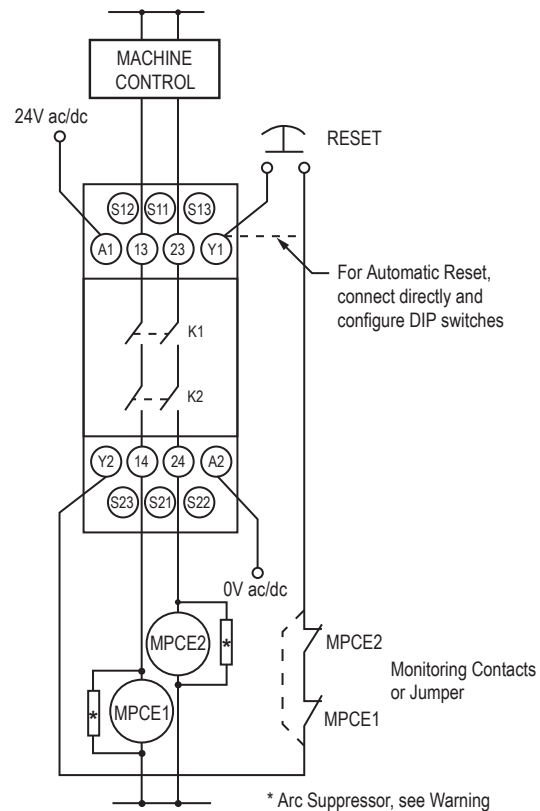

Figure 7. Wiring to the guarded machine
The reset function has two options, selected by DIP switch: Automatic reset or Monitored Manual reset. See Figure 7 on page 9 for configuration information.
The machine interface hookup diagram (Figure 7) shows a generic connection of the Module's two redundant output circuits to machine primary control elements MPCE1 and MPCE2. A machine primary control element is an electrically powered device, external to the Module, which stops the guarded machinery by immediately removing electrical power to the machine and (when necessary) by applying braking to dangerous motion. The stop is accomplished by removing power to the actuator coil of either MPCE.
To satisfy the Safety Category 4 requirements of ISO 13849 (EN 954-1), each MPCE must offer a normally closed, forced-guided monitor contact. One normally closed monitor contact from each MPCE is wired in series to the Y1-Y2 feedback/reset input (see Figure 7 on page 9). In operation, if one of the switching contacts of either MPCE fails in the shorted condition, the associated monitor contact will remain open, preventing the reset of the Module.
The reset switch must be capable of reliably switching 15 to 30V dc at 5 to 50 mA. As shown in Figure 7 on page 9, the reset switch connects between terminals Y1 and Y2 of the Module. The reset switch must be located outside of – and not accessible from – the area of dangerous motion, and it must be positioned so the switch operator can see all areas of dangerous motion during the reset procedure (see Warning).
To configure the Module for Automatic Reset, set switches S1.2 and S2.2 in Banks A and B to ON. If no MPCE contacts are monitored, install a jumper between terminals Y1 and Y2 (see Figure 7 on page 9). The Safety Module will reset (and its outputs will energize) as soon as the guards return to their closed position.
3. Apply input power (only) to the Gate Monitor Module at terminals A1 and A2 (see Figure 7 on page 9). The following LEDs should come ON: Power, Input 1, Input 2